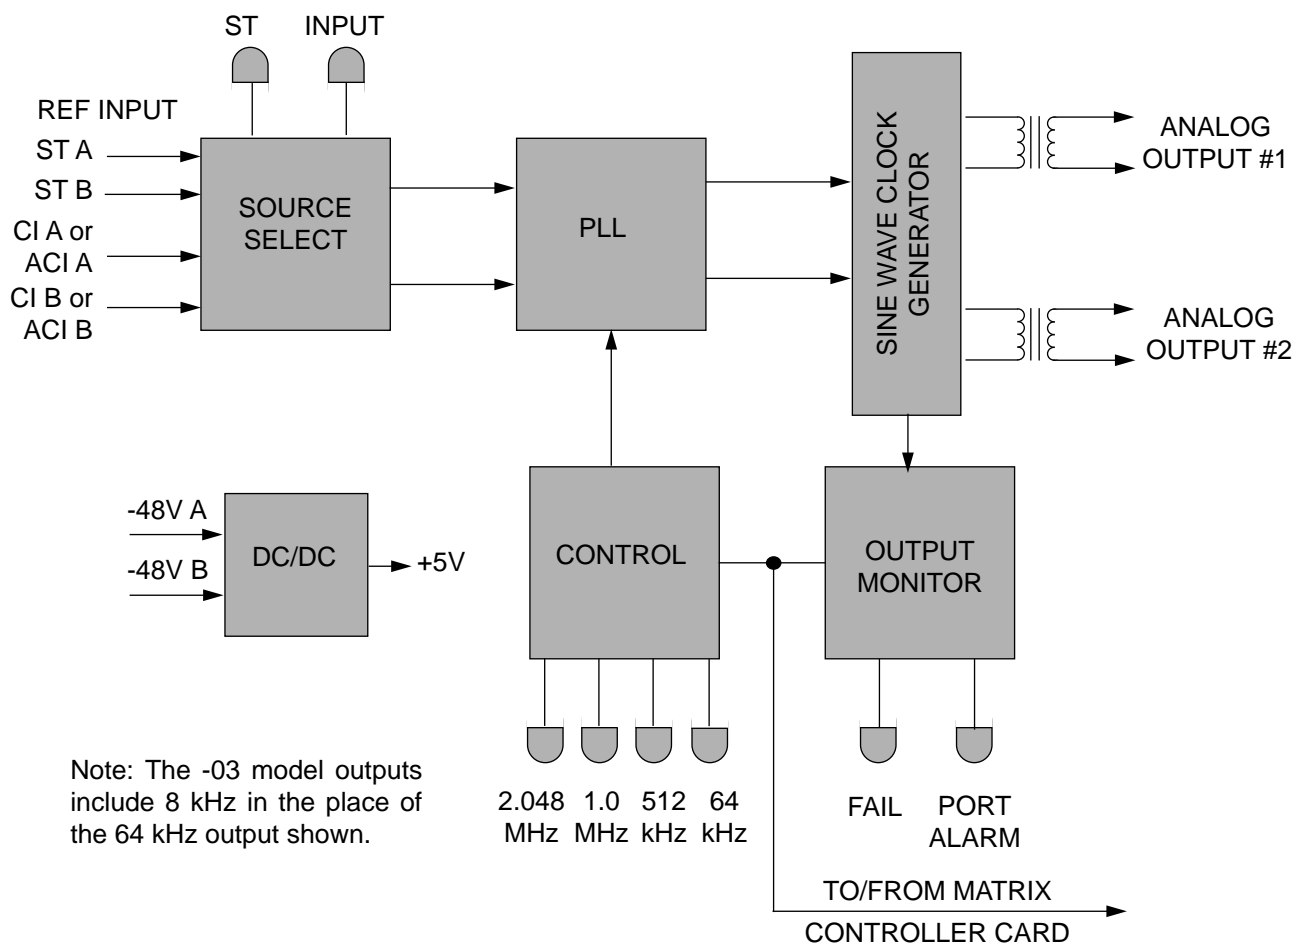

Figure 18. TOAA Card Block Diagram
4.75 Output protection for the DCD Systems may be either automatic or manual. Both methods require a Matrix Controller Automatic (MCA or MCA-2) card (Figure 18), and HS TOxA cards. Each DCD shelf contains slots for two HS cards.